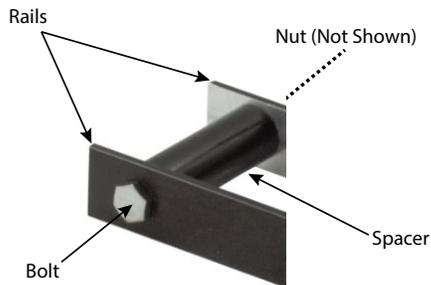

Figure 12: Secure rails to spacers
2. Position a spacer between the rails at each end. See Figure 12 on page 9.